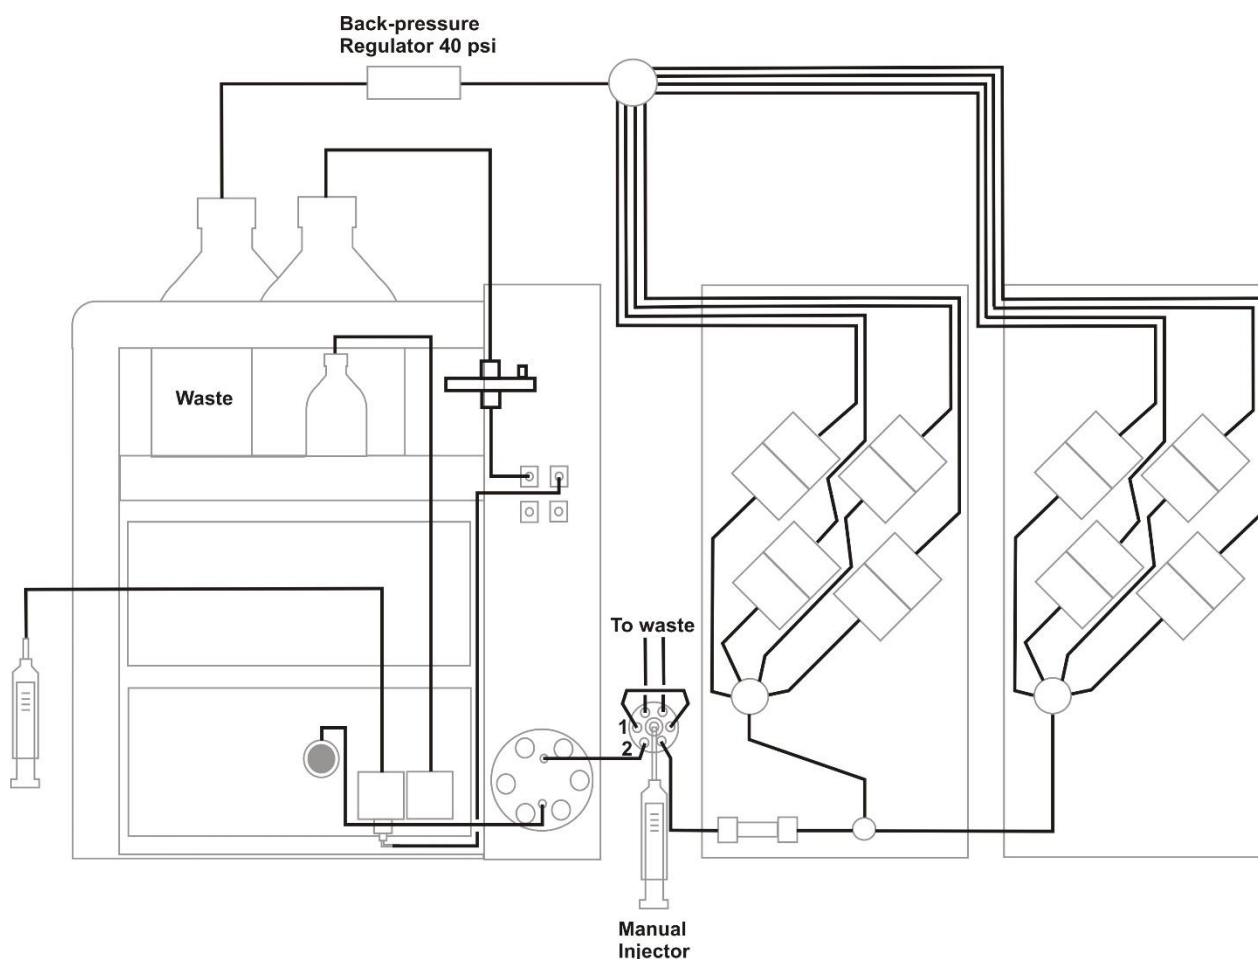

Figure 1. Schematic representation of the QC set-up with 8 VT-03 flow cells.
The analytical performance of flow cells with glassy carbon (GC) WE is checked by measuring the S/N ratio. The *signal* is measured by analysing a sample in an optimised *pseudo* flow injection analysis system, as schematically depicted in figure 1 on the previous page. All chemicals, including water, should be of the highest purity available. In the test set-up 8 flow cells are tested simultaneously.
1. Flow cells must be installed as described in the installation guide in the flow cell user manual. For system configuration see Fig. 1. Prepare the system with the conditions as given in Table 1.